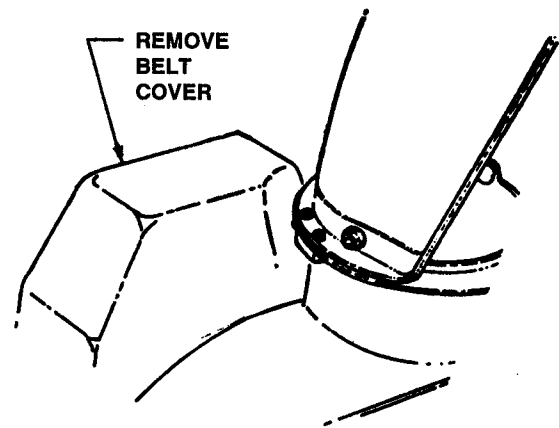

FIGURE 4.2
2. Remove belt cover. See Figure 4.2
1. Remove belt cover. Refer to Figure 4.2.